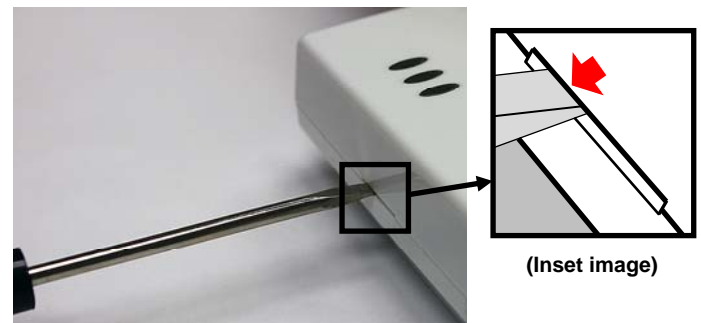

Fig. 1: To separate rear housing from cover
1. Insert a small flat-head screwdriver into the slots at the bottom and twist while applying inward pressure (see Fig. 1; insert the screwdriver closer to the edges of the unit, as shown in the Fig. 1 "inset" image).